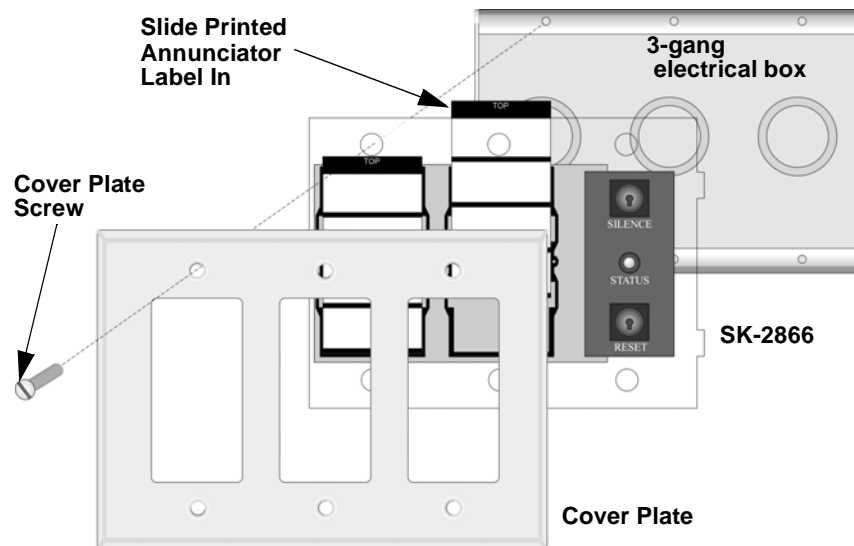

Figure 4-12 Mounting the SK-2866
3. Place the SK-2866 into the standard 3-gang electrical box. See Figure 4-12.
4. Place the cover plate over the top of the SK-2866 and align the holes. See Figure 4-12.